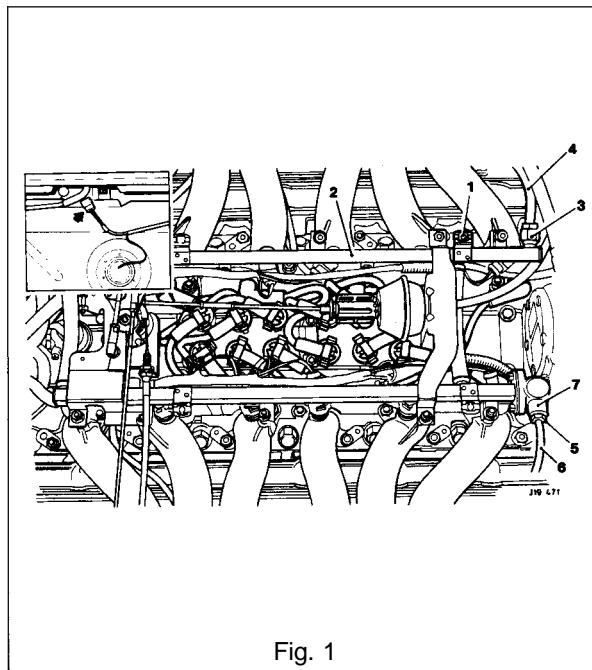

Fig. 1
- Remove injector to fuel rail retaining clips (1 Fig.1).
- Remove injector (2 Fig.1).
- Remove fuel regulator retaining plate and fixings (3 Fig.1).
- Remove fuel regulator (4 Fig.1).